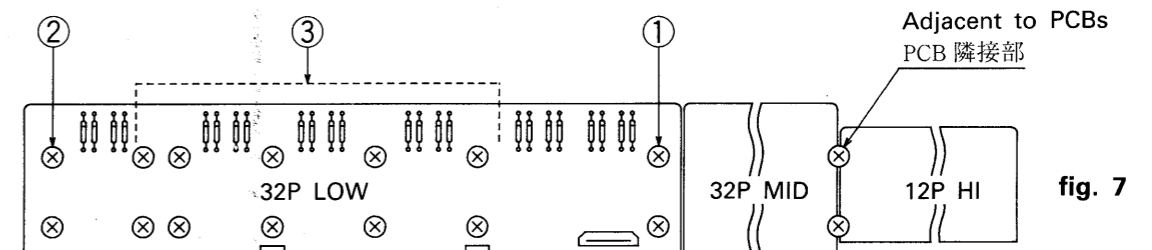

fig. 7
4) Then, tighten the LOW, MID and HI PCBs with the Tap Tite Screws. First tighten the near-center Screws 1, then the end Screws 2 on the other side. (This order must be followed. Otherwise the PCBs may not be flush with the Spacers.) Then tighten the remaining Screws 3 of the LOW, MID and HI PCBs. (For the above, see Fig. 7.) Finally, tighten the Screws in the area adjacent to the MID and HI PCBs. Since the PCBs may have been warped by soldering, etc., it is recommended to gently hold down the center and tighten the Screws.